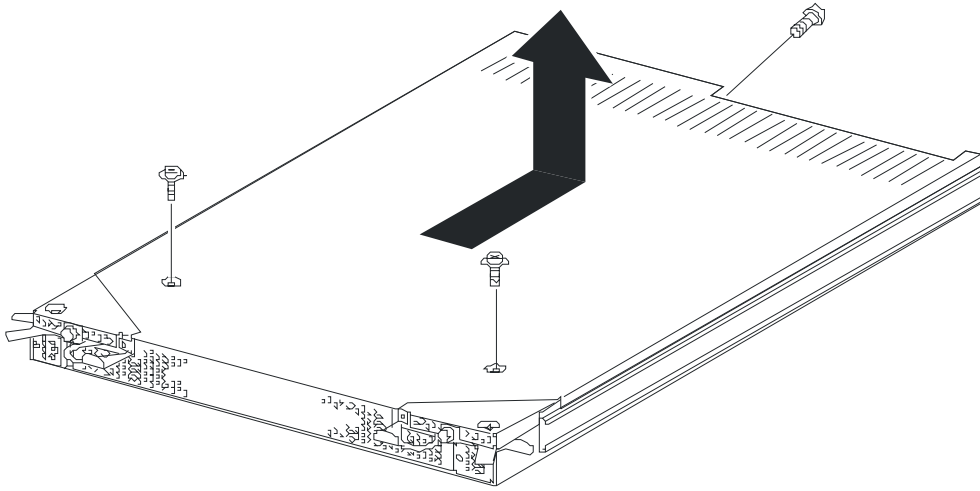

Figure 4-7. Removing the Three Screws Securing the Top cover of the CPU Module
2. Remove the three screws from the top and rear of the CPU module securing its top cover. See Figure 4-7.
3. Remove the top cover of the CPU module by sliding it slightly towards the rear of the module until it stops and its hooks disengage from the tab slots in the module chassis and then pull it straight up. See Figure 4-7.